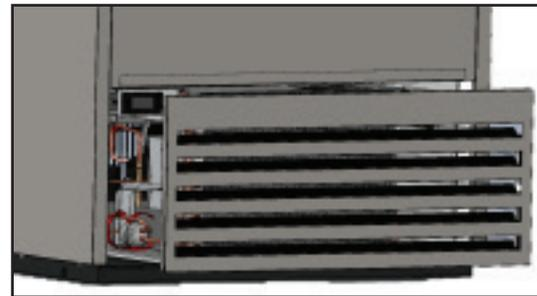

Fig. 2. Remove the grill.
3. Pull on the grill assembly to release it from the magnetic brackets. See fig. 2.